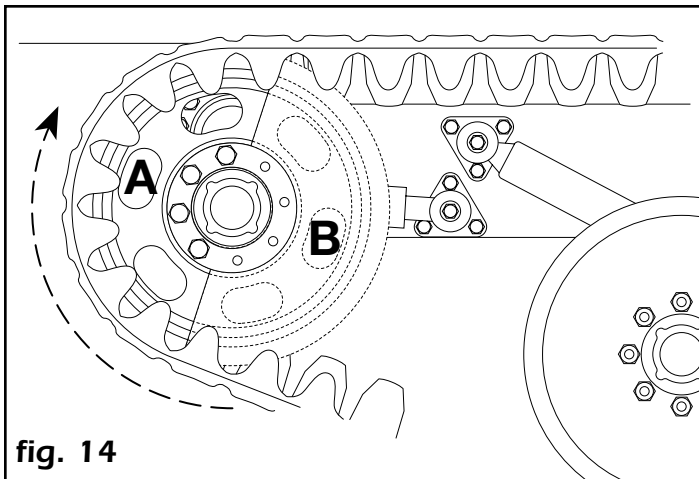

fig. 14
- b.13)** Move the vehicle forward to rotate the half-idler in position, then install the second half-idler wheel (the same way as in **b.12**). Install cap screws and lock washers. Torque rearmost half only at **160 ±10 ft-lb (210 ±15 Nm)**, rotate again to move other half-idler into rear position and then torque the four remaining screws. (See fig. 14 and 15)